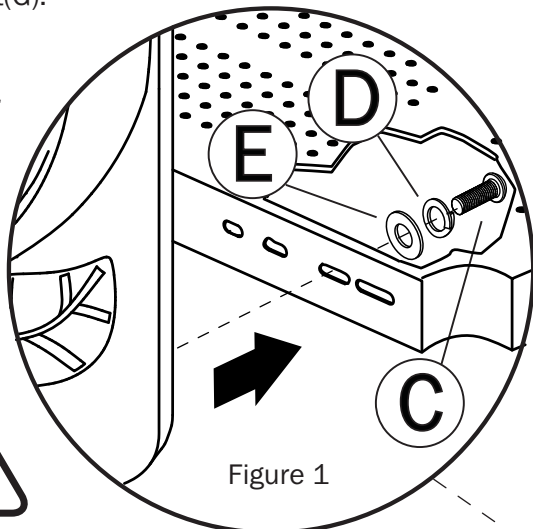

Figure 1
1. From front side of Slide Hood(A), insert Bolt(D) and Flat Washer(E) into hood, through Deck and secure with Flat Washer(E) and Lock Nut(F). See Figure 1.
1. Place Window Panel(A) against side of deck. Align bottom holes in Window Panel(A) with slots in Deck.
2. From underside of Deck insert Bolt(C), Lock Washer(D) and Flat Washer(E) into slot in Deck and into threaded insert in Window Panel(A). Lightly tighten. Repeat for other side. See Figure 1.
- Stand (4) 11ft Uprights(A) into position with clamp flange pointing inward.
- Lift Deck(B) and position onto clamp flange of (4) 11ft Uprights(A).
- Align hole in clamp flange with slot on underside of Deck(B). See *Figure 1*.
- Insert Bolt(C) and Flat Washer(D) upward into hole in Clamp and through slot in Deck(B). While pushing upright tightly against Deck(B), secure with Flat Washer(D) and Lock Nut(E).
1. Insert shaft of Tube Clamp(C) onto Bracket(B) and secure with Bolt(D) and Lock Washer (E). Place Tube Clamp(C) into position against Upright and enclose Upright with Tube Clamp(C). Secure with (2) Bolts(D) and (2) Lock Nuts(F). See Figure 1.
1. Position Ship's Wheel Panel (A) against side of Deck. Align bottom holes in Ship's Wheel Panel(A) with slots in Deck.
2. From underside of deck insert Bolt(C), Lock Washer(D) and Flat Washer(E) into slot in Deck and into threaded insert in Ship's Wheel Panel(A). Repeat for other side. See *Figure 1*.
1. Insert Bolts(E), Lock Washers(F) and Flat Washers(G) into slot in Mounting Bracket(B) into holes in underside of Slide(A) and tighten. See Figure 1.